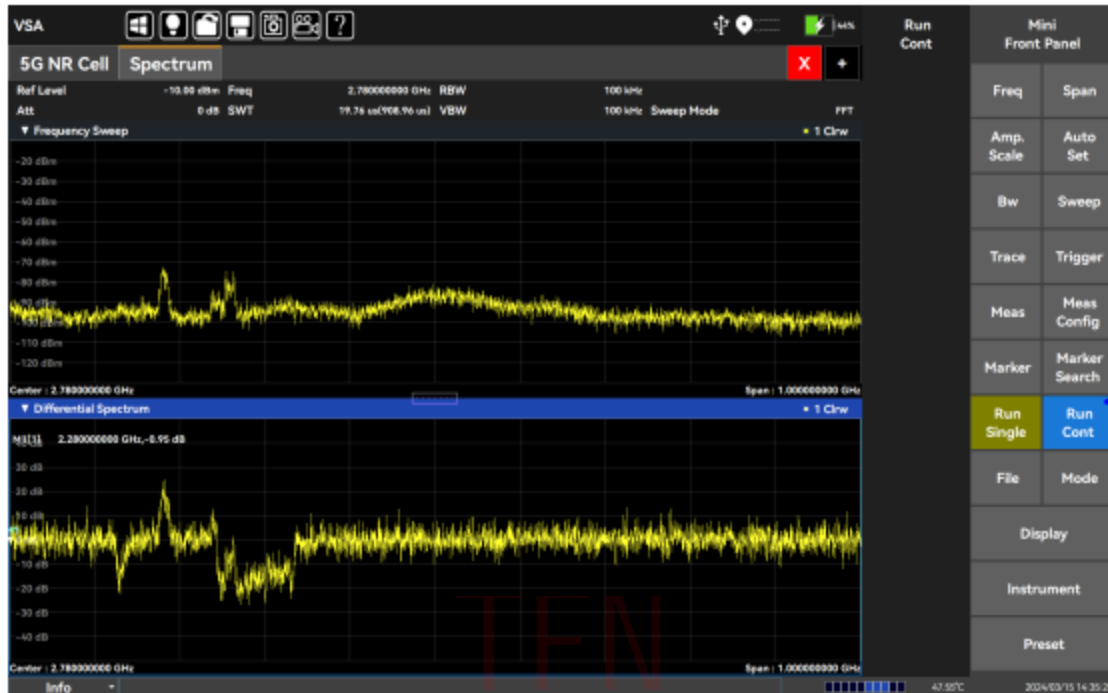

Figure 5.45 Differential frequency spectrum, the measured result
Step 5. Test results are shown in Figure 5.45: